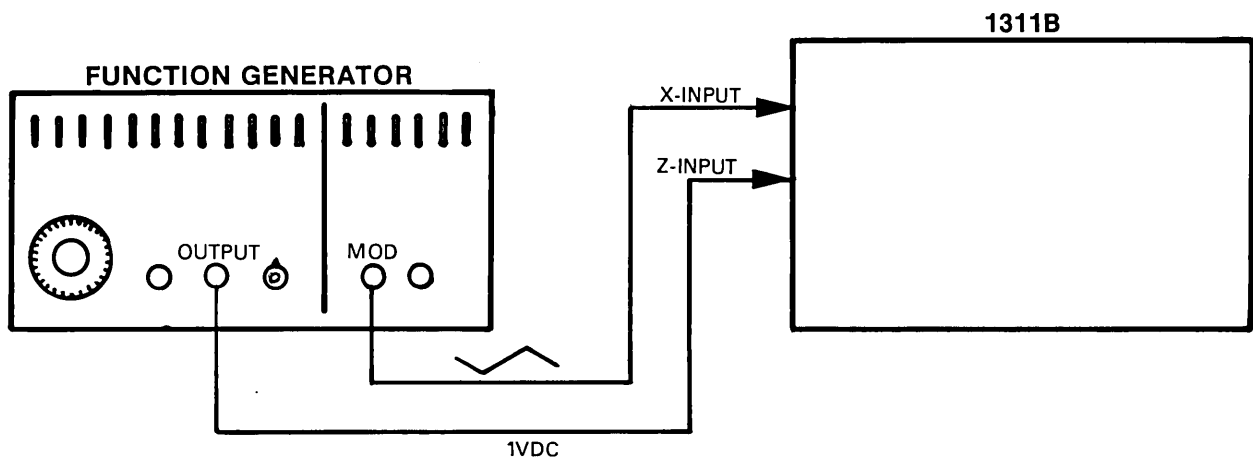

Figure 4-6. Z-axis Blanking Polarity Test Setup
- a. Connect equipment as shown in figure 4-6.